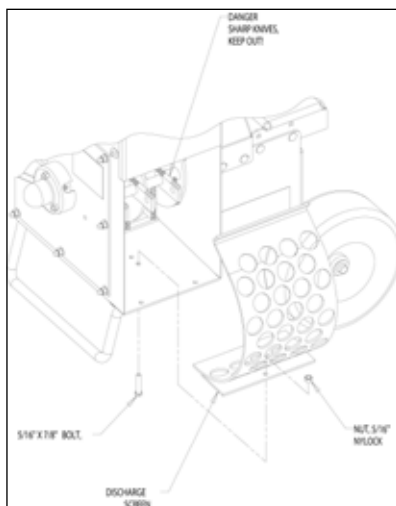

Figure 5.4 - Replacing the Discharge Screen
2. Remove the 5/16" x 7/8" bolt and nut securing the discharge screen to the frame (Figure 5.4).